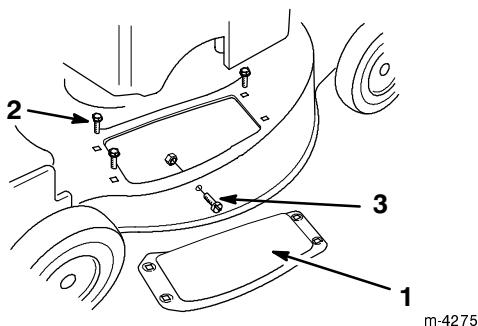

Figure 36
4. Remove and save the three bolts that secure the discharge cover to the lawn mower (Fig. 36). Save the cover and bolts for future use.
2. Bolt (3)
5. Remove the screw and nut from side of the lawn mower (Fig. 36). Save them for future use.
6. Install the side cover clamp and the knob to secure the side opening cover (Figs. 36 and 42).